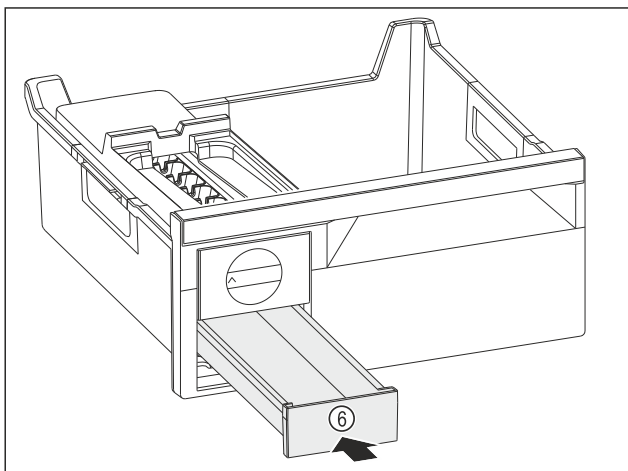

Fig. 122
- ▶ Insert the ice cube drawer Fig. 122 (6).